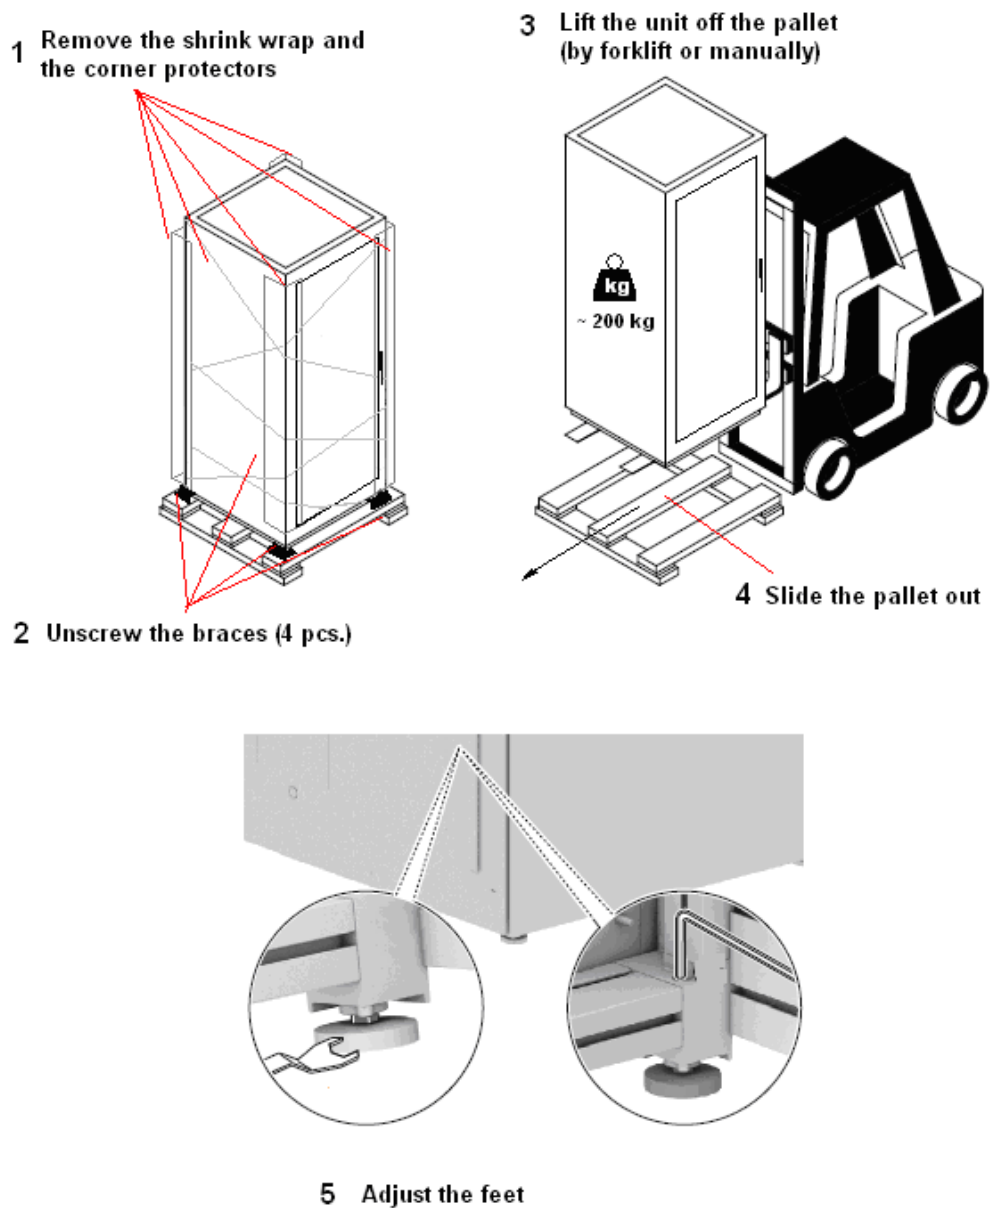

Figure 8 Unpacking the Knürr DCD (part of the rack)
- 1 After removing the packaging, first lift the Knürr DCD frame off the pallet (Figure 8).